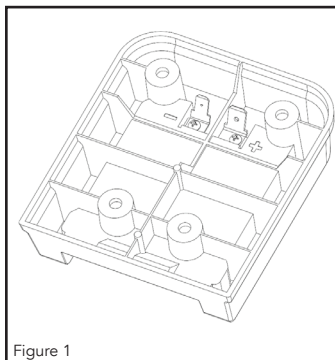

Figure 1
2. Locate terminals within the battery connection port. (See Figure 1)